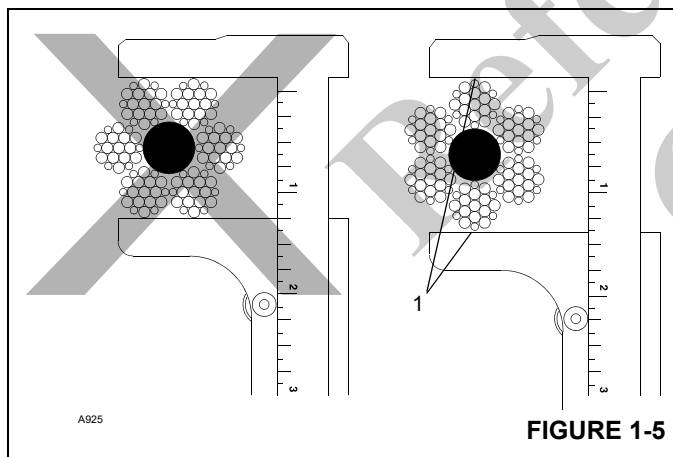

FIGURE 1-5
- Measure the rope's diameter across crowns (1) of the strands when determining if rope has become damaged (Figure 1-5).